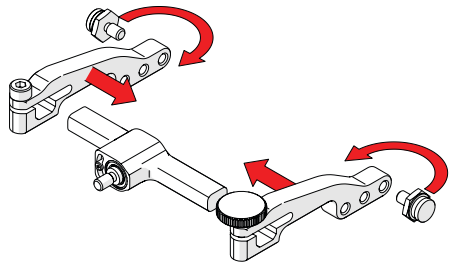

Fig. 88 - Attach arms and move buttons
4. Place the pivot buttons on the inside of the probe holder arms (*Fig. 88*) using a 3/8 in wrench (*Fig. 2*). Slide the arms onto the yoke and tighten the probe holder arm adjustment knob and the arm clamp screw.